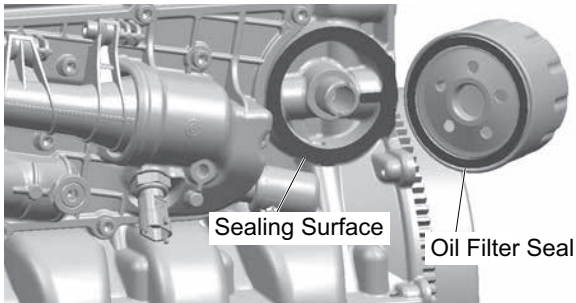

Fig. 7 Oil Filter
- 2. Clean the engine sealing surface with a clean cloth (Ref. Fig. 7).